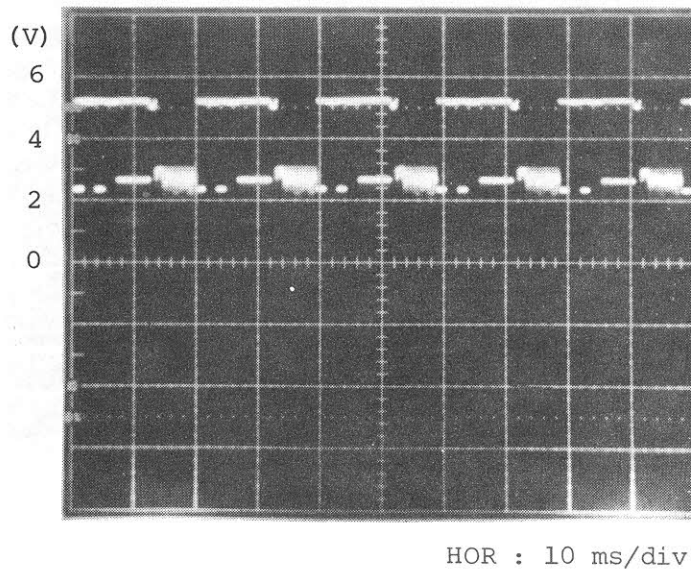

Fig. 5-89 BLANKING CONTROL
6.	Observe the control signal ⑧ of the blanking circuit, and confirm that the amplitude is approximately 3 Vp-p as shown in Fig. 5-89.